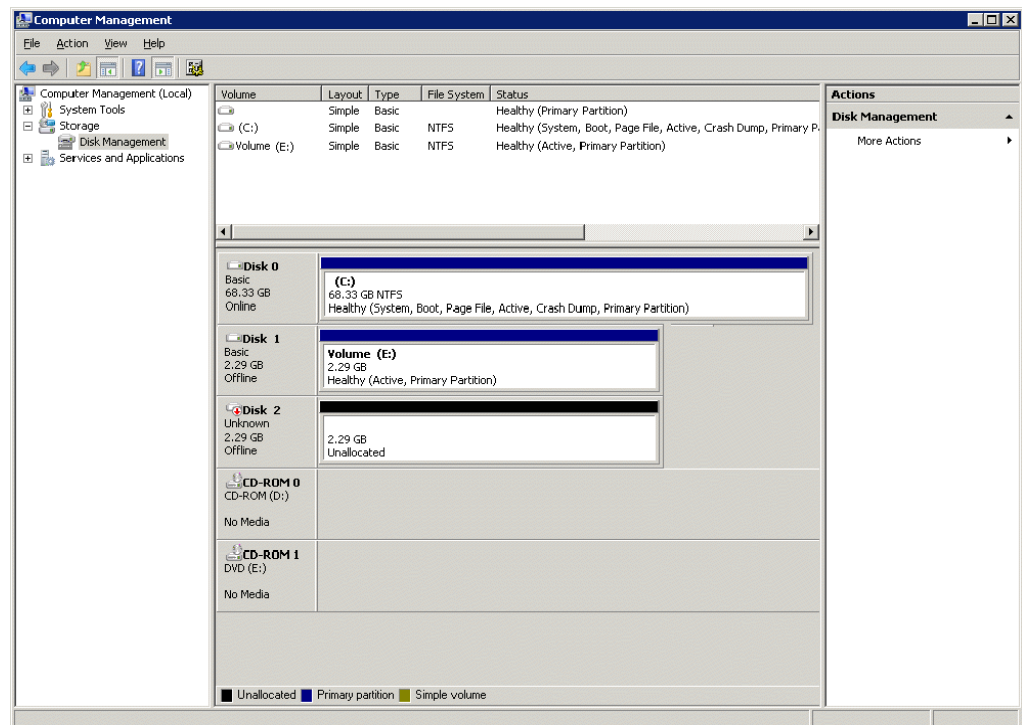

Figure 2-22: Verifying the Formatted Partition
10. Verify that the Disk Management main panel shows the correct file system (NTFS) for the formatted partition (Figure 2-22). The word **Healthy** indicates that the partition has been created and formatted successfully.